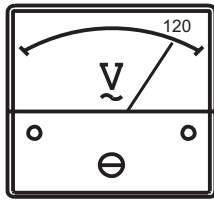

Figure 53. Voltmeter
6. The generator's **AC voltmeter** (Figure 53) will display the generator's output in **VOLTS**.